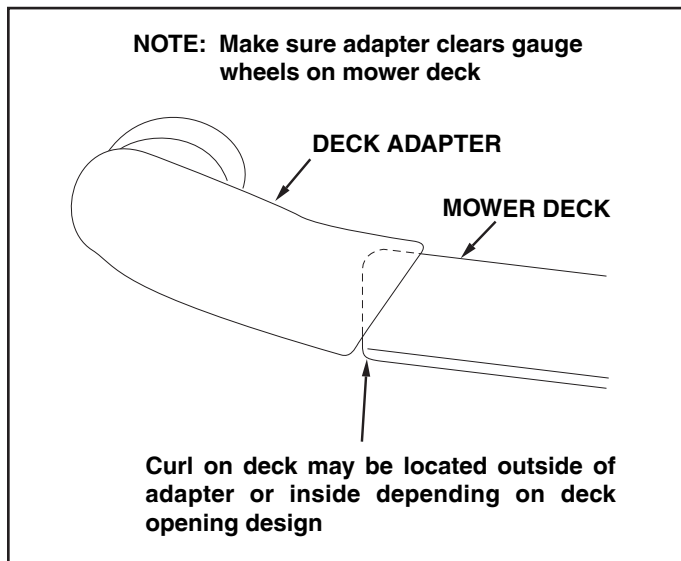

FIGURE 14
- Position the adapter over the deck opening, and check for fit of cutout as shown in figure 14. Trim cutout, if necessary, to allow tilting of adapter, keeping the fit as close as possible for best vacuum suction.